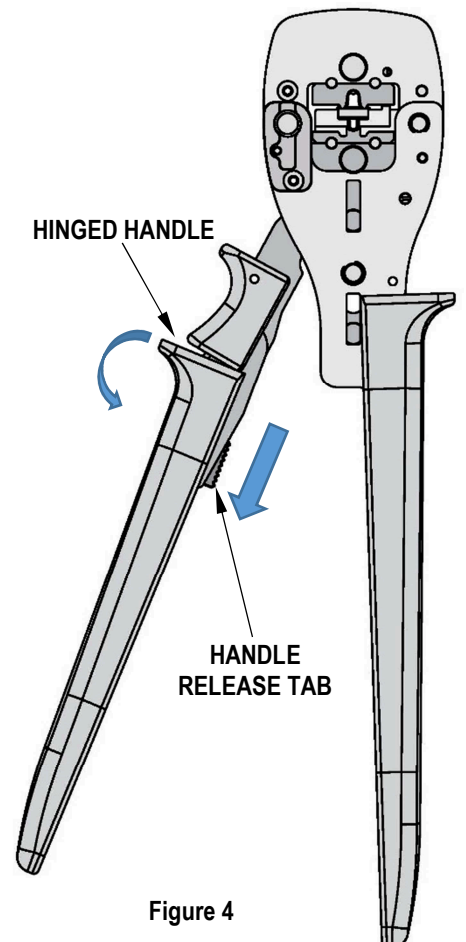

Figure 4
2. While holding the ridged tab down, bend the lower portion of the handle to engage the hinge. See Figure 4.